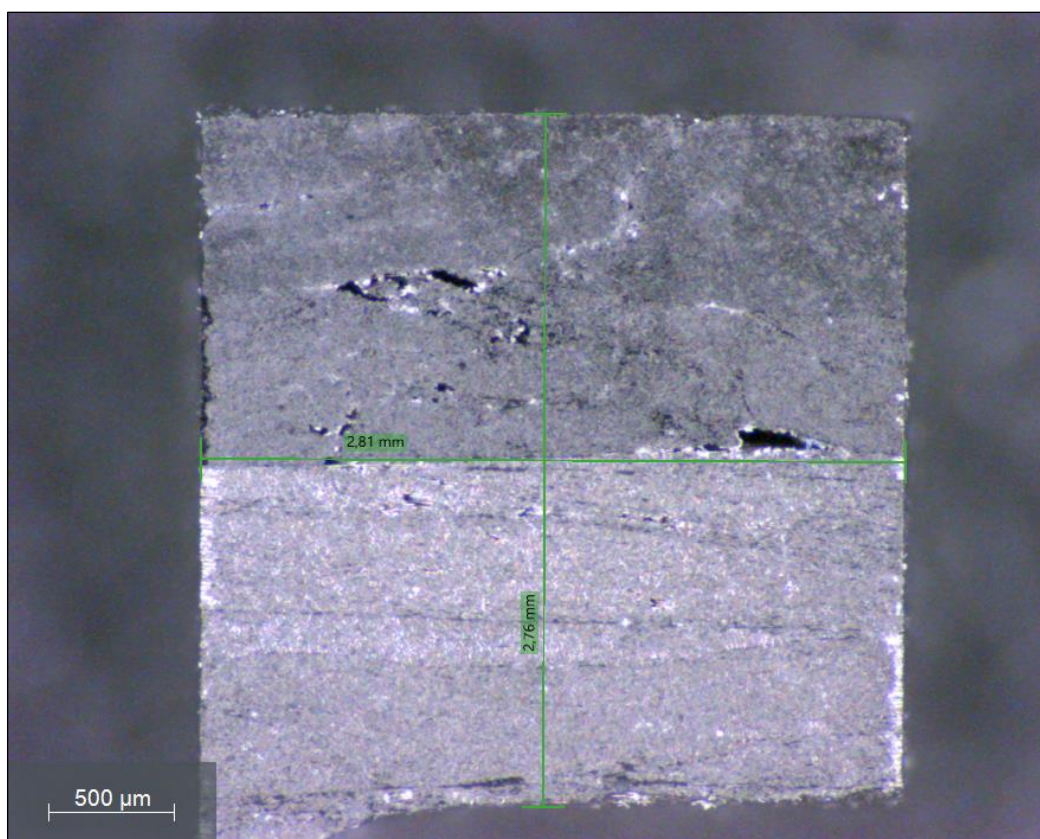

Figure 12: Microscope Leica M125 C – 32x.
- After the last cut there is a burr on the cube (see Figure 12). - To save time the component should be shortened before cutting. - Cutting time for the two long cuts: approx. 35 min